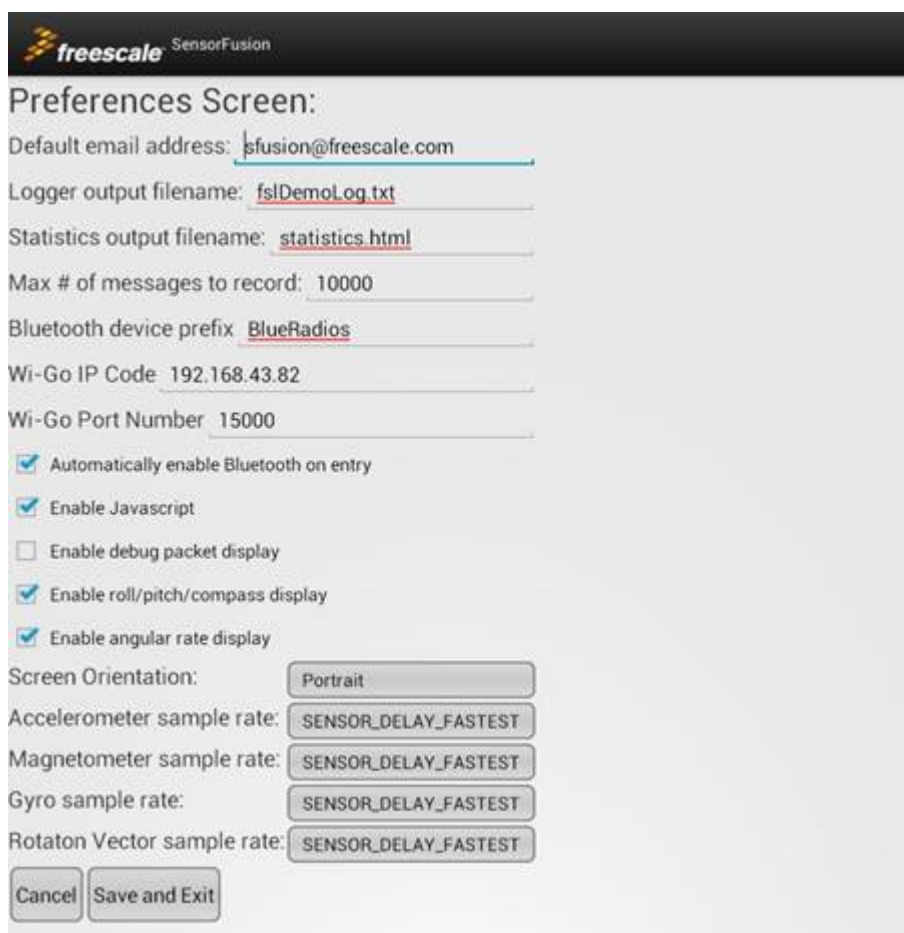

Figure 17. Sensor Fusion preferences window
3. Open the **Preferences Screen**, see Figure 17 and check the **Automatically enable Bluetooth on entry** checkbox. Click **Save and Exit** option and then exit the application.